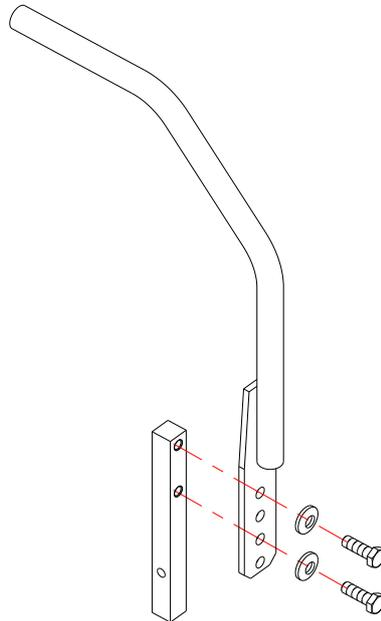

FIG 4
b) Install the motion control lever onto the control arm shaft (see Figure 4).